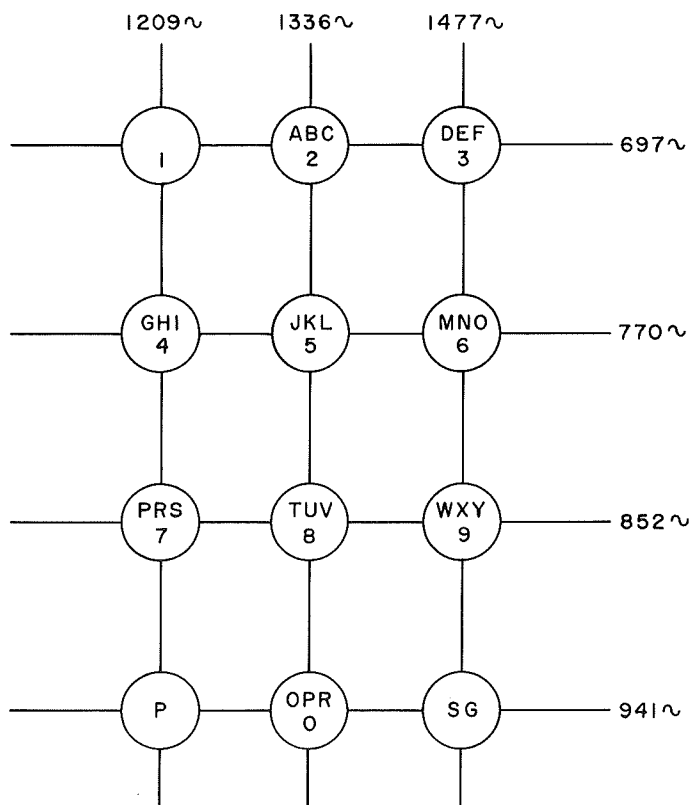

Fig. 3 - Dial Frequencies
2.06 The oscillator generates two frequencies simultaneously. The push-button at each grid intersection selects its coordinate frequencies (see Fig. 3). For example, button 5, depressed, selects 1336 cycles and 770 cycles for transmission to the central office.